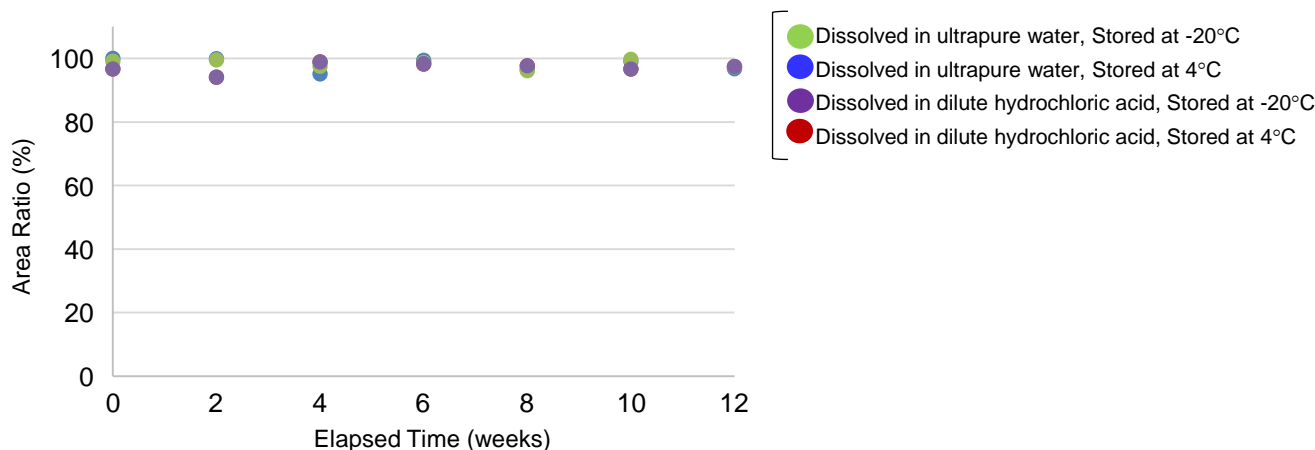

Figure 7 Variation with Time for Tryptophan
- ✓ For tryptophan, regardless of the solutions and storage temperatures, no significant change was observed (Figure 7).